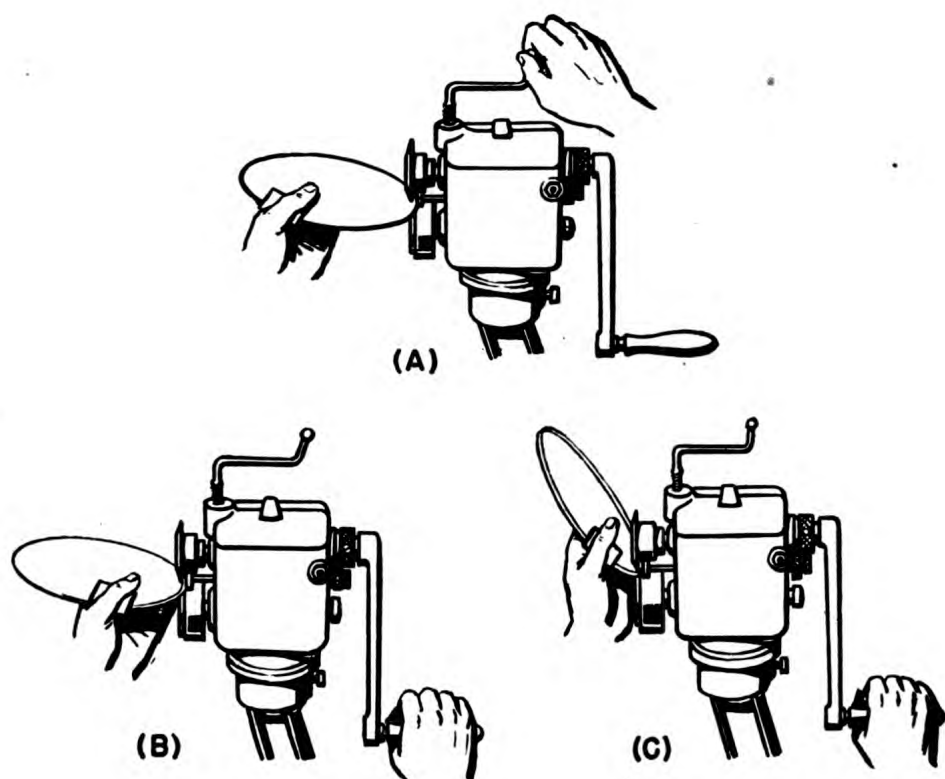

Figure 23.—Steps in making a burred edge.
edges of the lower roll. Its edge should be against the gage as in figure 23 (A). Now lower the top roll until it JUST GRIPS the metal disk.
After the first revolution, increase the speed at which you turn the crank. At the same time, gradually raise the disk as in figure 23 (C) until the burr is turned.